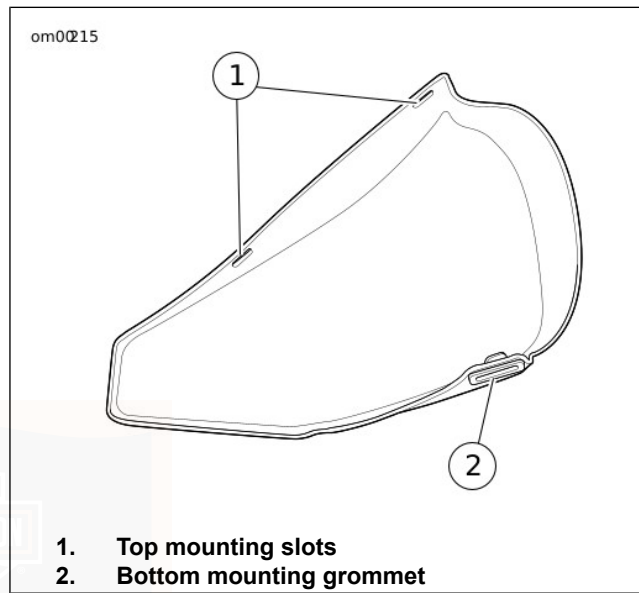

Figure 63. Side Cover: Sportster Models
5. See Figure 63. Place bottom of side cover with grommet in frame and press top of side cover into clips until snug.
4. See Figure 63. Place bottom of side cover with grommet in frame and press top of side cover into clips until snug.